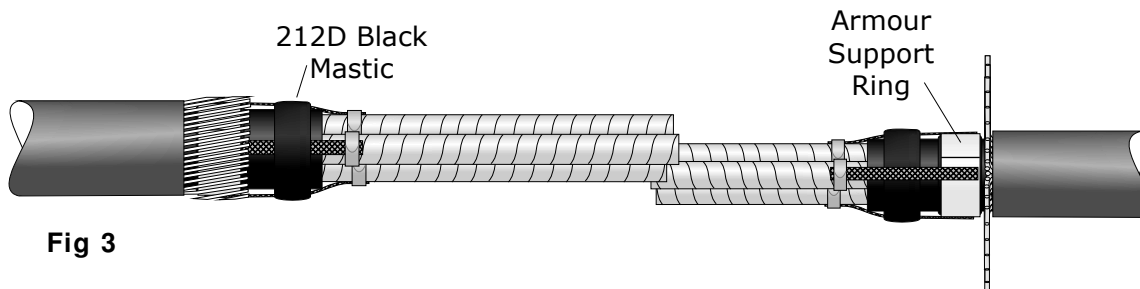

Fig 3
5. Fit the under armour support ring and fold down the armours as shown in Fig 3.